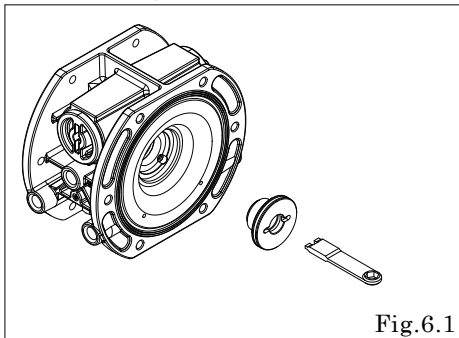

Fig.6.1
- Remove the guide bushing with Cap and disk remover (Special tool: 771132) [Fig. 6.1]